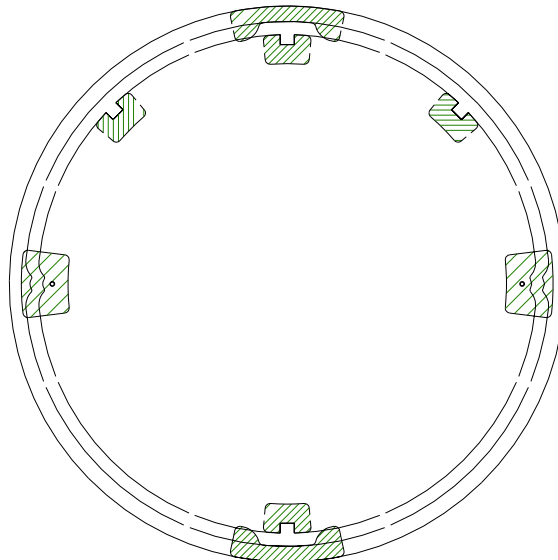
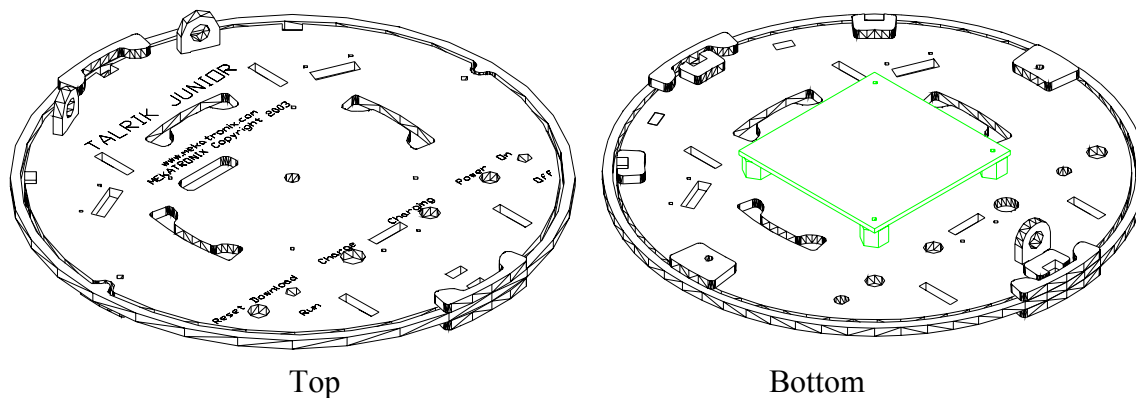

Figure 17 TJ-PRO™'s bumper assembly.
Figure 18. These two figures present the top and bottom view of the robot's top plate with the bumpers, printed circuit board, and IR eyelets attached.
Refer to Figure 17 and Figure 18.
2. Glue the three IR eyelets (TJIRE20) onto the top plate as shown in Figure 18. Notice the one in the rear points downward and is mounted on the underside of the plate. Since the eyelets fit loosely, you might want to use hot glue here.
Refer to in Figure 18 to visualize the bumper more clearly.
Figure 17 depicts a schematic diagram of TJ-PRO™'s bumper system.
The MTJPRO11™ printed circuit board (PCB) mounts underneath the top plate (Figure 18). Four mounting holes are provided. The 6-pin serial communications header should be mounted on the non-component side of the MTJPRO11™ PCB. A slot on the top plate provides access to this header. Proper mounting of the PCB on the top plate will recess the serial communications header below the top surface of board.